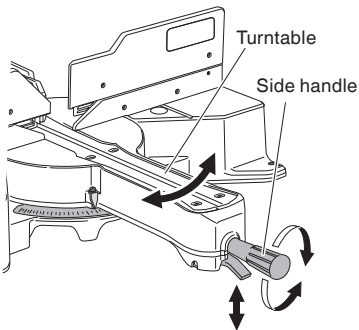

Fig. 34
- (1) Rotate the turntable to the miter angle you need.
- (2) After adjusting to the desired angle, tighten the side handle. (Fig. 34.)